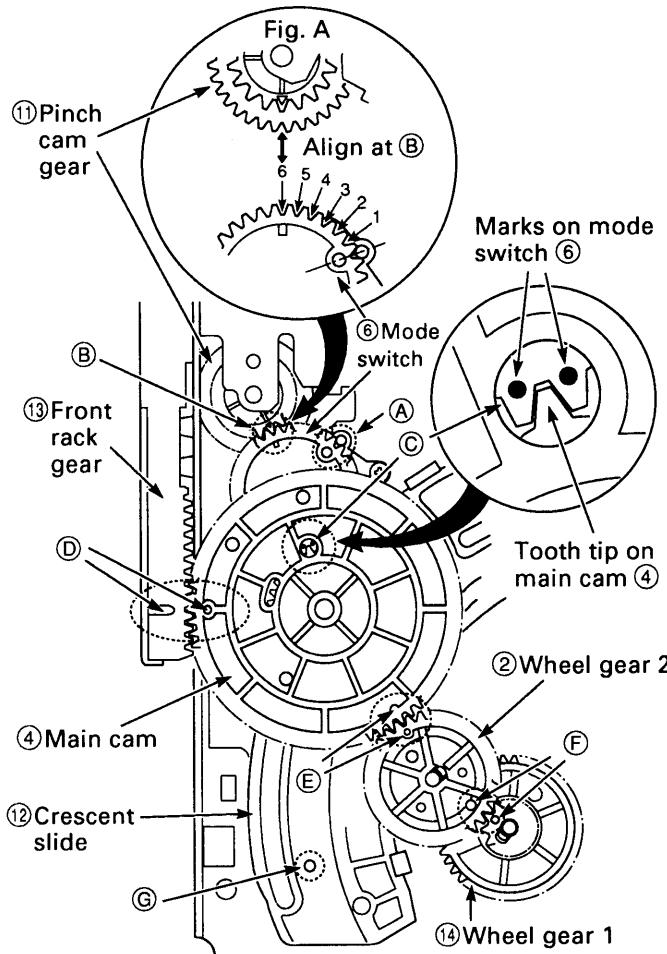
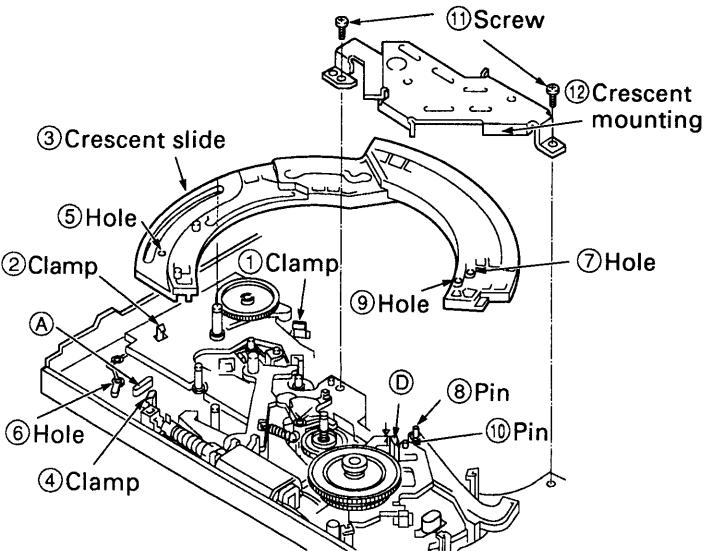
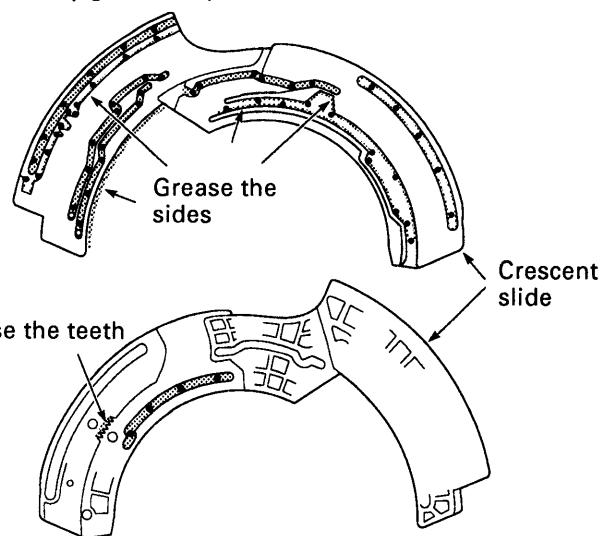

Fig.3-15-2
Fig.3-16-1
Fig.3-16-2
1. Apply grease (VHJ-0100) to the shafts ⑧, ⑨ and ⑩, to the teeth of the main cam ④, and to the all over the cam groove of main cam ④.
2. When fitting the mode switch ⑥, align it in ⒶⒷ order as shown in Fig.3-15-2. The alignment of the part ⑧ is shown in Fig. A. Position the teeth of the mode switch ⑥ so that the sixth tooth space left of part ⑧ is aligned with the triangular mark on the pinch cam gear ⑪. After aligning part ⑧, refer to section 3-9-2 and check the positioning of the mode switch, the pinch cam gear and the pinch lift cam.
4. Align the hole in the crescent slide ⑫ with the hole in the mechanism chassis, as shown at point ⑬ in Fig.3-15-2 (refer to section 3-16 and see the holes⑮ and ⑯ in Fig.3-16-1).
5. When fitting the main cam ④, position the mode switch ⑥ and the front rack gear ⑬ as shown at points ⑭ and ⑮ respectively in Fig.3-15-2.
6. When fitting the gear wheel 2 ②, position the main cam ④ and the wheel gear 1 ⑭ as shown at points ⑯ and ⑰ respectively in Fig.3-15-2.
(See Figs.3-16-1 and 3-16-2)
1. Apply grease (VHJ-0100) to the points A,B,C and D in Fig.3-16-1, and to the crescent slide ③ shown in Fig.3-16-2.